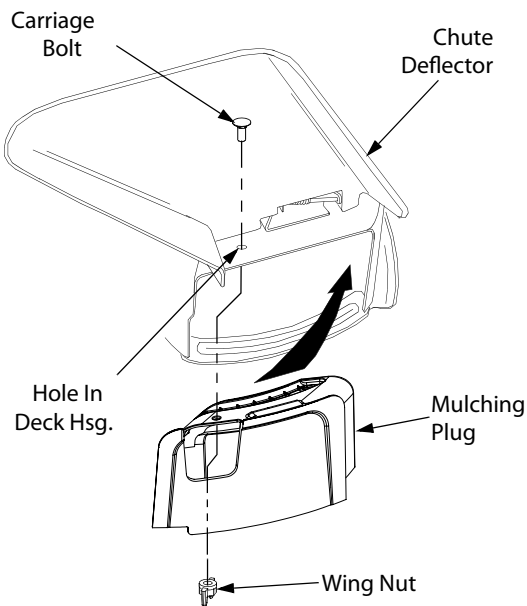

Figure 5-11
- Lift the chute deflector upward and insert the mulching plug into the discharge opening of the deck (Refer to Figure 5-11).
- Position the mulching plug so that its top hole aligns with the hole in the top of the deck housing. Install the carriage bolt through both surfaces and secure with the wing nut (See Figure 5-11).